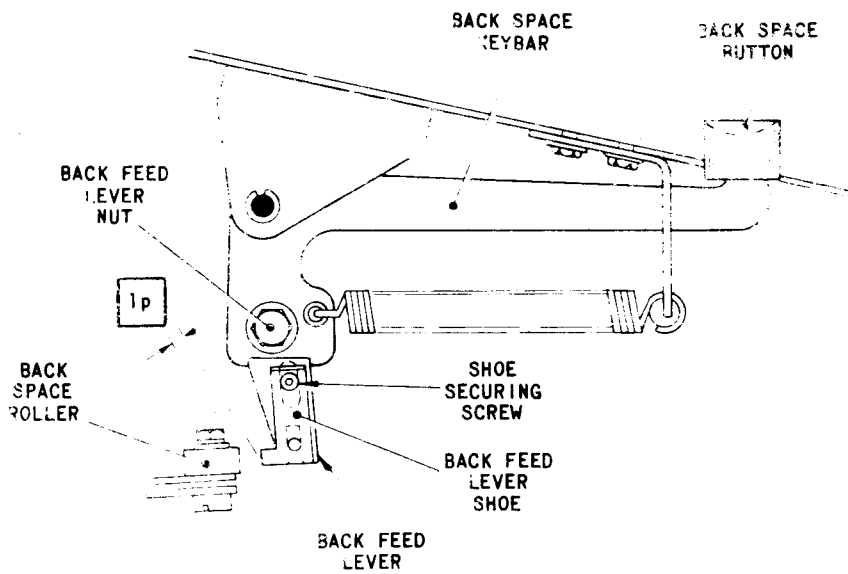

FIG. L.20 BACK FEED LEVER ASSEMBLY
22.1 Open and close the front cover lid and check that there is a clearance of .030 – .060 in. (dimension 'lp') between the back feed lever shoe, Fig.L.20, and the back space roller. Depress the back space button and check that the shoe engages the centre of the roller.